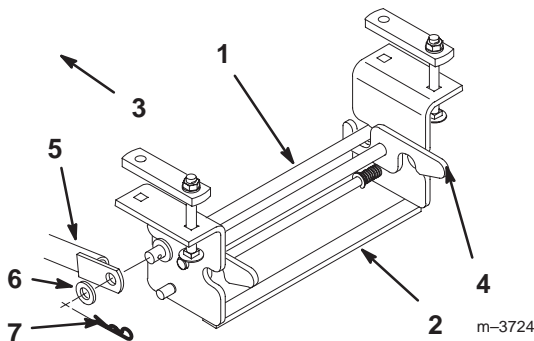

Figure 21
- Put the support rod link into the front notches on the rear Attach-A-Matic hitch and close the latches to secure it in place (Fig. 21).
- Secure the braces to the rod with a 13/16 in. (21 mm) washer and a large hairpin cotter (Fig. 21).